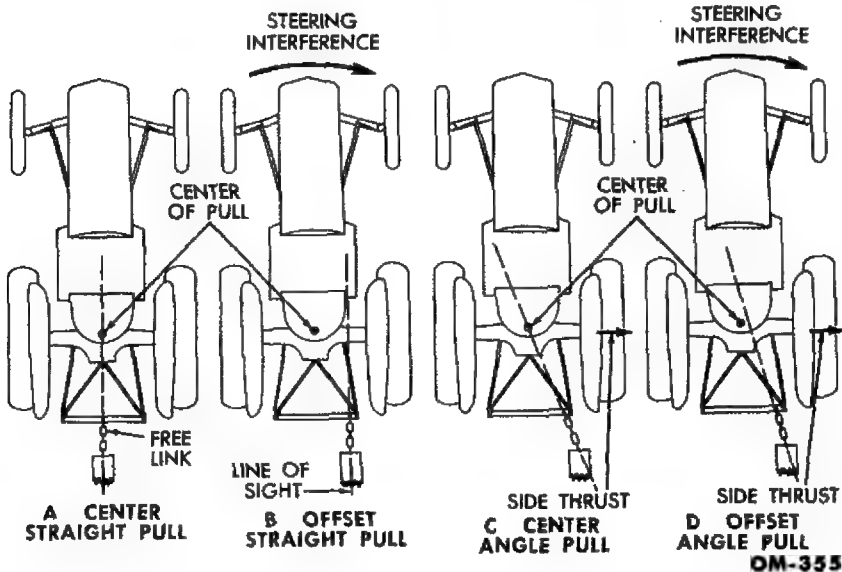

Fig. 17—Horizontal Hitch Adjustments
b. Horizontal Hitch Adjustment. The field method of determining the correct horizontal drawbar hitch is by inserting a short chain or clevis as a free link between the implement and tractor hitch point (fig. 17). When under load, the free link will take a line connecting
the hitch point and the center of load (fig. 17). The center of load is the balance point of the load forces. By sighting down the free link (clevis or chain), it is possible to determine the position of this line with reference to the center of pull. Study fig. 17 A, B, C, and D to determine the type of hitch and operating characteristics.